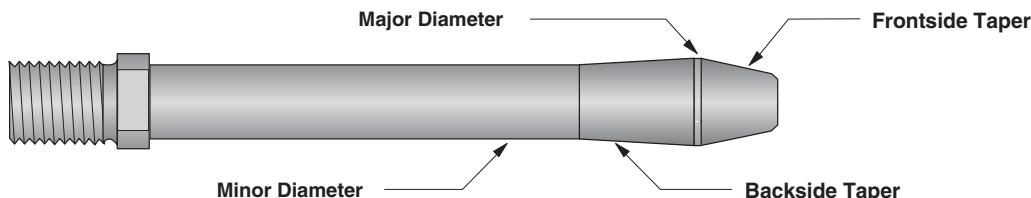

Figure 2-02 — Mandrel
- 2.6 **Major Mandrel Diameter** - The largest mandrel diameter which, in conjunction with the sleeve thickness, provides the proper amount of applied expansion to coldwork a hole. This dimension is critical to the process. Ref. Fig. 2-02.
- 2.7 **Minor Mandrel Diameter** - The mandrel dimension which, when combined with the split sleeve thickness, allows insertion into the start hole. Ref. Fig. 2-02.
- 2.8 **Taper** - Taper is the section of mandrel on either side of the major diameter which enhances the coldwork process. The taper on the frontside of the major diameter aides the installation of the split sleeve and insertion into the hole to be coldworked. The taper on the backside of the major diameter controls the pull-force required to coldwork the hole. Ref. Fig. 2-02.